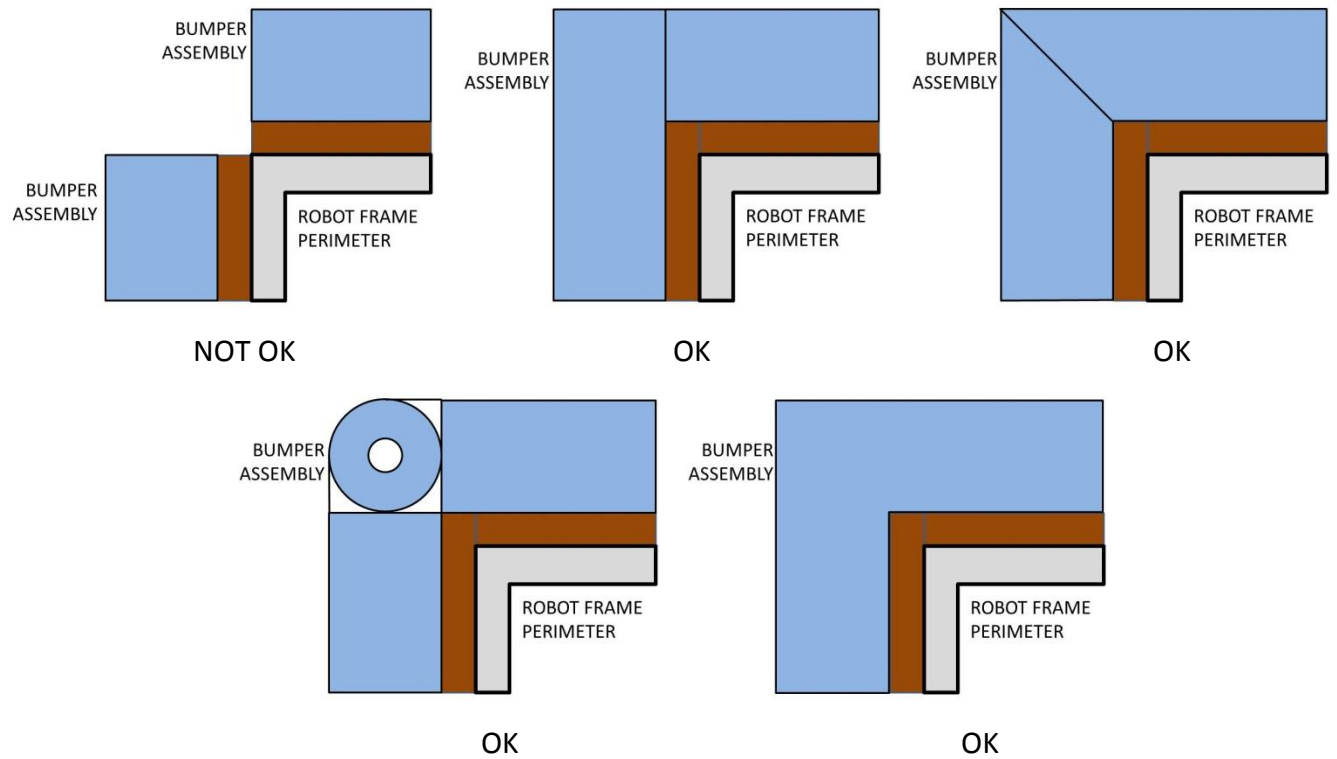

Figure 4-6
- [R31]** Joints between Bumpers and the radial projections of corners must be filled with pool noodle material. Examples of implementation are shown in Figure 4-6.